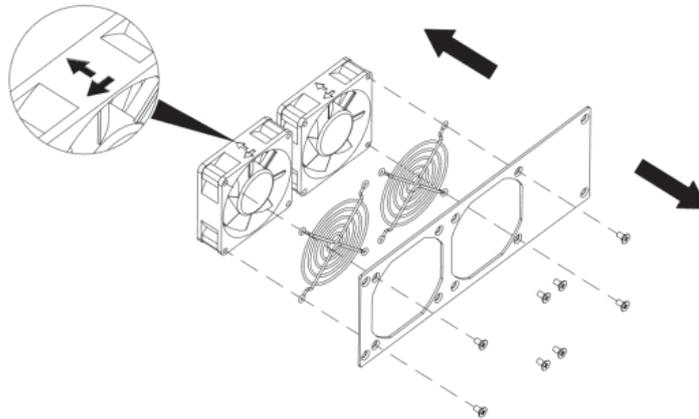

Figure 5.3 Replace fans
- (6) Remove the damaged fans, and replace good fans, connect the power lines and control signal lines, as shown in Figure 5.3.